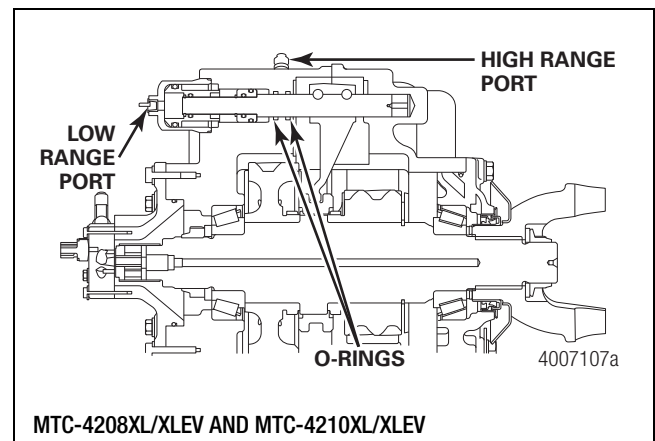

Figure 6.30
- Lubricate and install the O-ring into the rear cover push rod journal. Use a light coat of lithium-based grease, Meritor specification O-668, prior to cover installation. Figure 6.30.